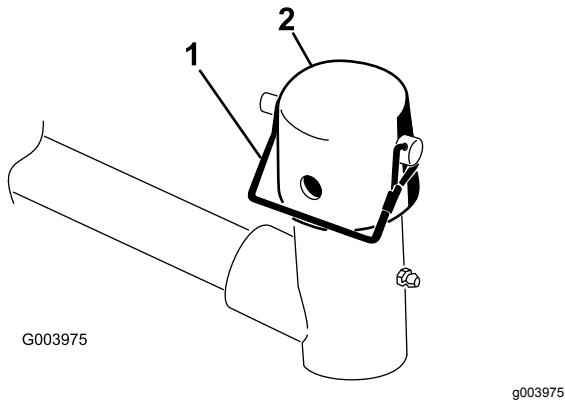

Figure 10
7. Remove the lynch pin from the lift-arm pivot yoke. Then, remove the cap (Figure 10).